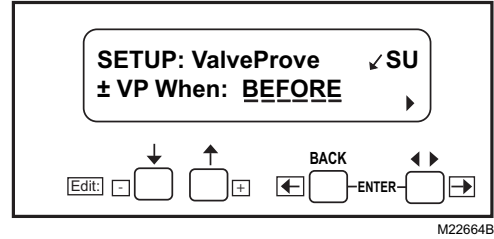

Fig. 12. SETUP: Valve Prove screen.
- 12. “Getting Data” will be momentarily displayed, followed by the screen shown in Fig. 12.